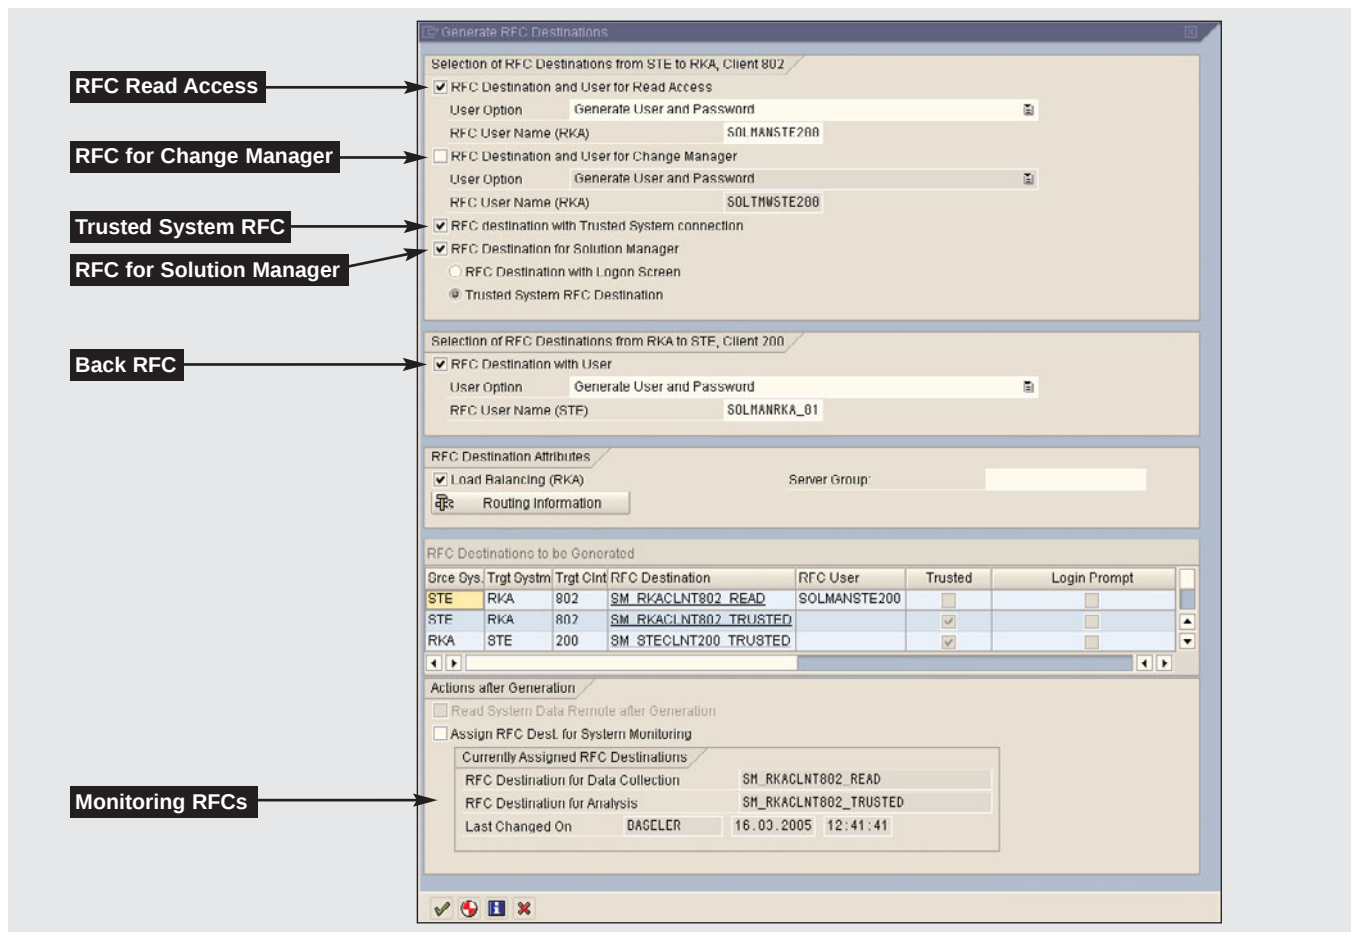
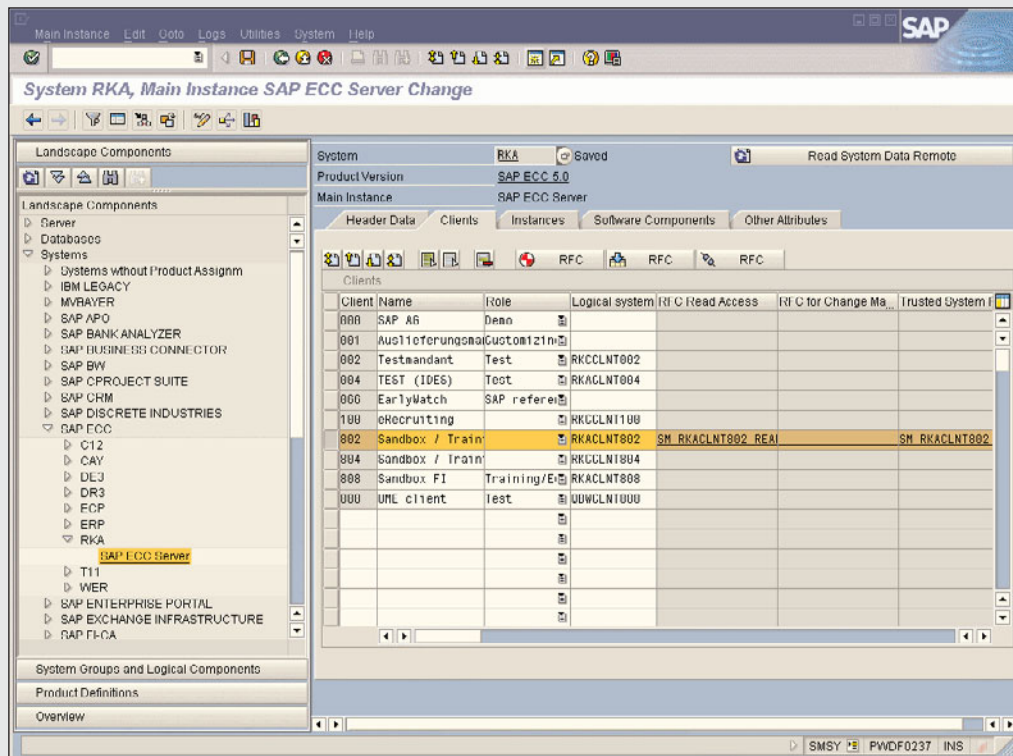

Figure 15 Generating RFCs in SMSY
Figure 16 Selected RFC types displayed in SMSY
Figure 15 shows the available RFC types, along with the short names that are used to refer to them on the Clients tab in SMSY (for simplicity, I refer to the RFC types using their short names throughout the discussion that follows). As an example, in Figure 15 I've selected the RFC types relevant for an Implementation and Distribution usage scenario.²⁰ You can see the details of the selected RFCs in the RFC Destinations to be Generated table.
²⁰ The Load Balancing option is selected by default, as shown in Figure 15. I recommend leaving it selected, so that in your satellite system, load balancing is performed by the message server when users log on to the system. The load balancing mechanism distributes the server requests depending on the number of users and the load across any number of application servers. If no specific server group is chosen, as in our example, all application servers will be taken into account for load balancing.
- Save your settings. The RFCs are now created. You will have to log on to the satellite system to check your user authorizations regarding RFC generation and user creation. Any errors are displayed in an RFC log launched automatically after RFC generation. In **Figure 16**, the table on the Clients tab shows the selected RFC types — RFC Read Access, Trusted System RFC, and if you scrolled to the right you would see RFC for Solution Manager — and the RFC destination details from the table in Figure 15.
You may have noticed that the Back RFC is selected in Figure 15, but is not listed as part of the Clients tab display in Figure 16. This is because the Clients tab displays only RFCs pointing out from the SAP Solution Manager system (STE in the example) to the satellite system (RKA in the example). Since Back RFCs point back from the satellite system to the SAP Solution Manager system, they are listed only in the Generate RFC Destinations window (Figure 15), not on the Clients tab in SMSY (Figure 16).
As indicated in Figure 15, an SAP Solution Manager Implementation and Distribution scenario uses the following types of RFC connections — RFC Read Access, Trusted System RFC, RFC for Solution Manager, and Back RFC. Let's take a closer look at which are needed when.
You must also define the RFC for Solution Manager as either a trusted system or as one with a logon screen (see Figure 15). Defining the RFC as an RFC destination with a logon screen requires the user to enter logon information. Defining the RFC as a trusted system RFC enables users to log on to the correct system without having to know the logon system and client — the system automatically verifies if the user requesting the logon has an identical user name in that system and, if so, grants access to the function, transaction, or IMG activity requested. Moreover, users are not explicitly prompted to log on with their user information when accessing the satellite system.²⁴ When
²² The user is created according to the naming convention SOLMAN<SID><CLI>, where <SID> stands for the SAP Solution Manager system identifier and <CLI> for the respective client of the SAP Solution Manager system (e.g., user SOLMANSTE200 in Figure 15).
The trusted system option for the RFC for Solution Manager type has synchronization points with the Trusted System RFC type. The RFC for Solution Manager simply applies the Trusted System RFC type to the RFC for Solution Manager connection. You do so by selecting the option Trusted System RFC Destination below the RFC Destination for Solution Manager option (see Figure 15).
²⁸ The user is created according to the naming convention SOLT MW<SID><CLI>, where <SID> stands for the SAP Solution Manager system identifier and <CLI> for the respective client of the SAP Solution Manager system (e.g., user SOLT MWSTE200 in Figure 15).